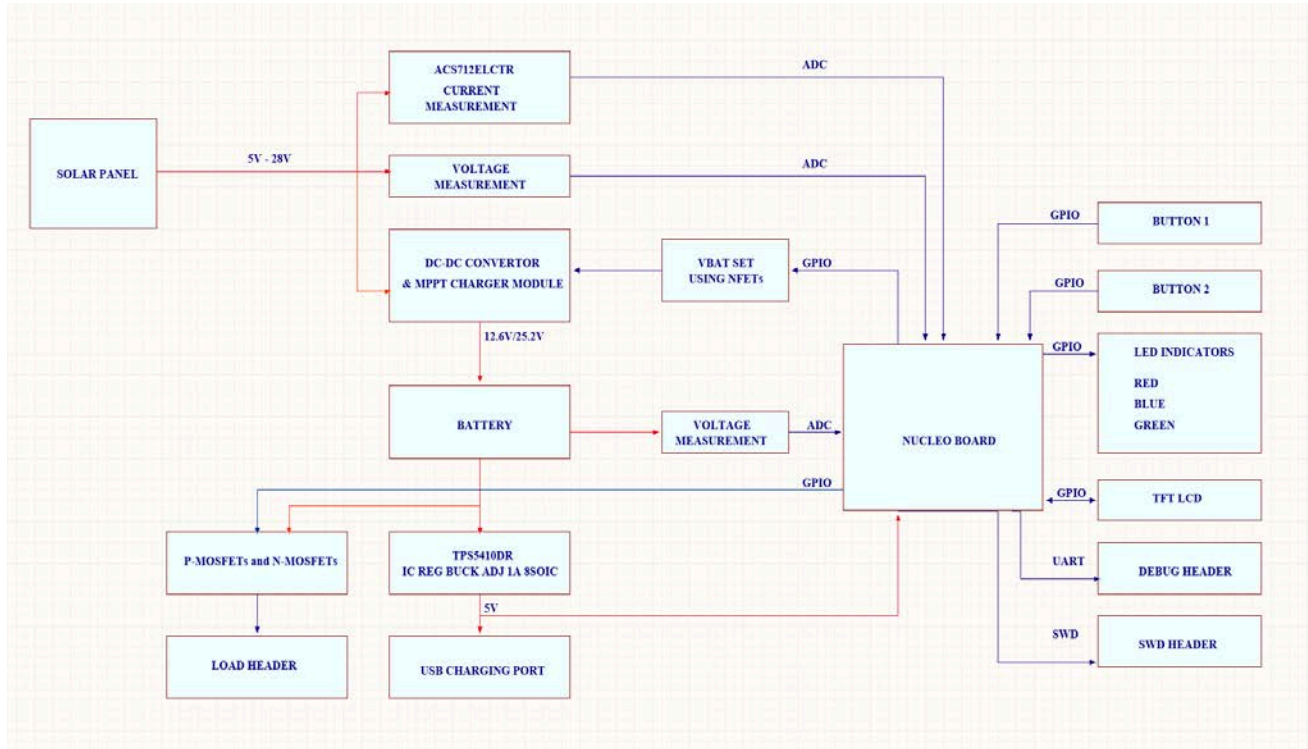

Figure 3: Solar charge block diagram solution
3. Figure 3: Solar charge block diagram solution
analog components can be represented in a solar charge block diagram as shown in figure 3.